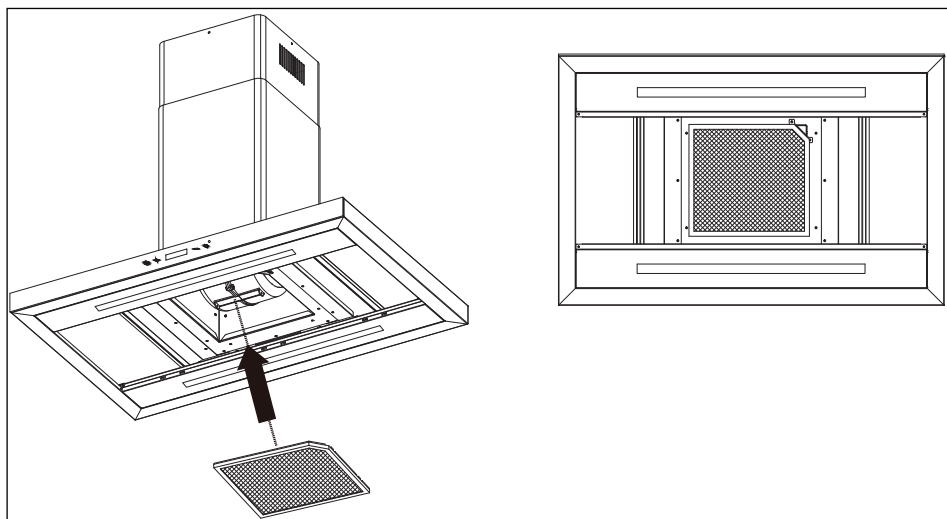

Fig. 2
2. Place the carbon filters between the engine and the aluminium fat filters (see Fig. 2).